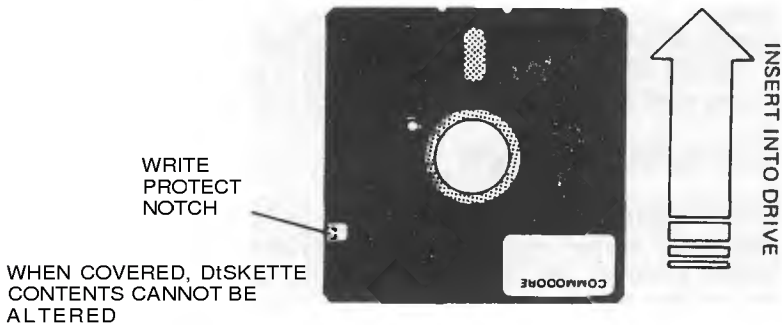

Figure 4. Position for Diskette Insertion
- Figure 4: Position for diskette insertion
If you have another 1551 disk drive, plug that interface connector into the slot in the first interface connector. Don't try to use more than one disk drive until you've learned how to change their device numbers, as no two disk drives can have the same device number. We'll cover ways of changing disk device numbers in Appendix A. Until you are ready to read that section, you may find it easier to leave your extra drive(s) unconnected (see Figure 4).